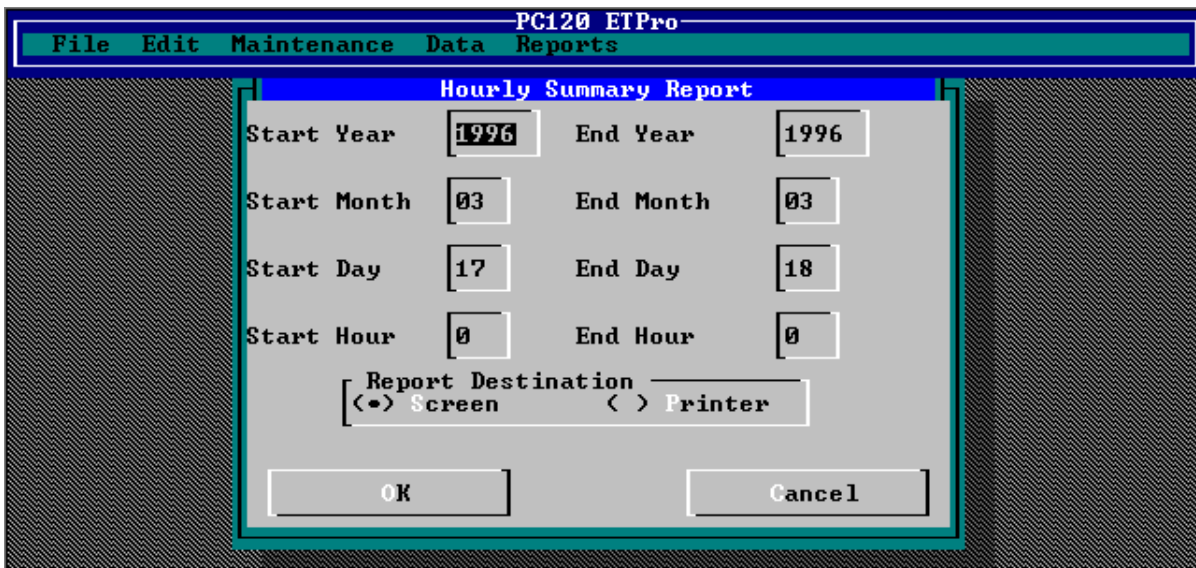

FIGURE 7. Hourly Summary Report
1. Select the "Reports" menu followed by the "Hourly Summary" sub-menu from the shell. A screen should appear similar to Figure 7.